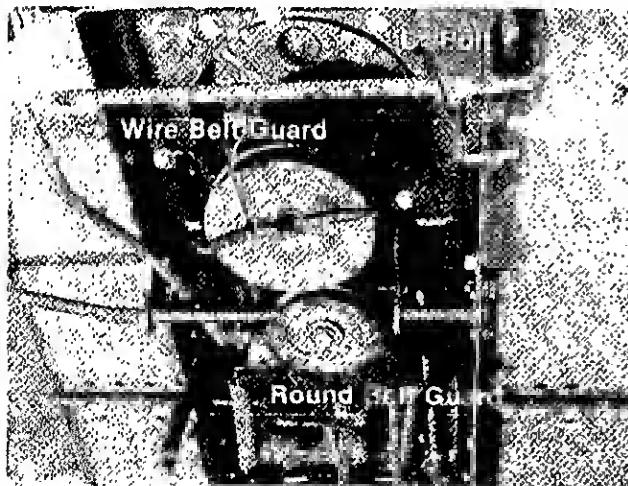

FIGURE 5.
1. Remove the round belt keeper from the idler by removing the cotter hairpin. (See figure 5.)